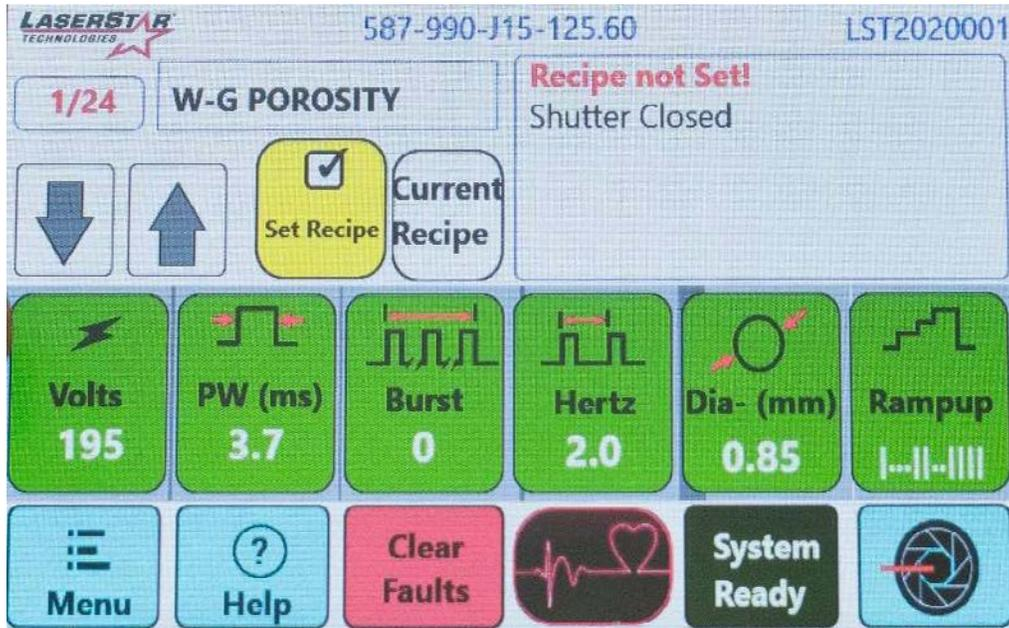

Figure 82
1. Press “MENU” on Main Screen (Figure 82)
1. Press "MENU" on Main Screen (Figure 82)